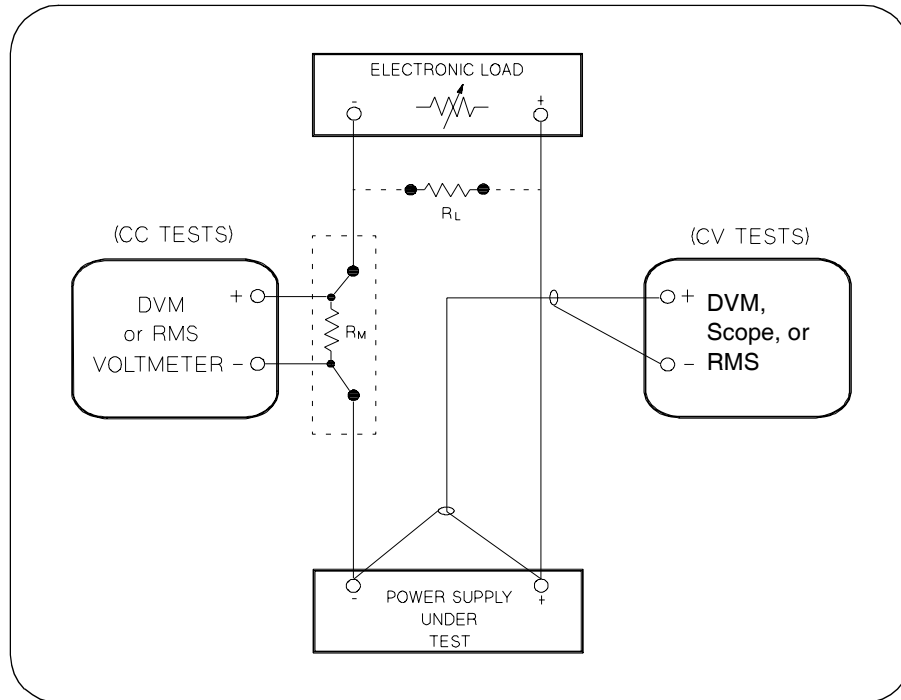

Figure A-1 Performance Verification Test Setup
Most tests are performed at the front terminals as shown in Figure A-1. Measure the dc voltage directly at the (+) and (-) terminals on the front panel.
To eliminate output current measurement error caused by the voltage drops in the leads and connections, connect the current monitoring resistor between the (-) output terminal and the load as a four-terminal device. Connect the current-monitoring leads inside the load-lead connections directly at the monitoring points on the resistor element (see R_M in Figure A-1).
- 1 Turn off the power supply and connect a digital voltmeter between the (+) and (-) terminals of the output to be tested as shown in Figure A-1.
- 1 Turn off the power supply and connect a digital voltmeter between the (+) and (-) terminals of the output as shown in Figure A-1.
- 4 Operate the electronic load in open mode (input off). Record the output voltage reading on the digital voltmeter immediately. The difference between the digital voltmeter readings in steps (3) and (4) is the CV load regulation. The difference of the readings during the immediate change should be within the limit of (5 mV)* or (9 mV)**.
- 6 Adjust the transformer to high line voltage (127 Vac for nominal 115 Vac, 110 Vac for nominal 100 Vac, or 253 Vac for nominal 230 Vac). Record the voltage reading on the digital voltmeter immediately. The difference between the digital voltmeter readings in steps (5) and (6) is the CV line regulation. The difference of the readings during the immediate change should be within the limit of (5 mV)* or (9 mV)**.
- 1 Turn off the power supply and connect the output to be tested as shown in Figure A-1 to an oscilloscope (ac coupled) between (+) and (-) terminals. Set the oscilloscope to AC mode and bandwidth limit to 20 MHz. Connect a resistive load (13.5Ω)[‡] to the terminal at (B) as shown above.
- 1 Turn off the power supply and connect the output to be tested as shown in Figure A-1 with an oscilloscope. Operate the electronic load in constant current mode.
- 1 Turn off the power supply and connect a $0.01\ \Omega$ current monitoring resistor (R_{M1}) across the output to be tested and a digital voltmeter across the current monitoring resistor (R_{M1}) as shown in Figure A-1.